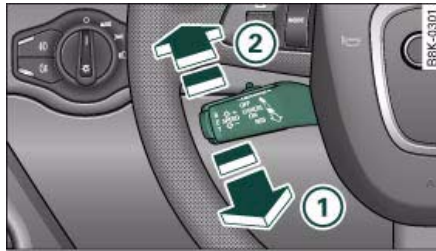

Fig. 138 Control lever for: Switching the system on and off
- Pull the control lever to position ① ⇒ fig. 138 to switch on the system.
- Press the control lever to position ② (click stop engaged) to switch the system off. ■